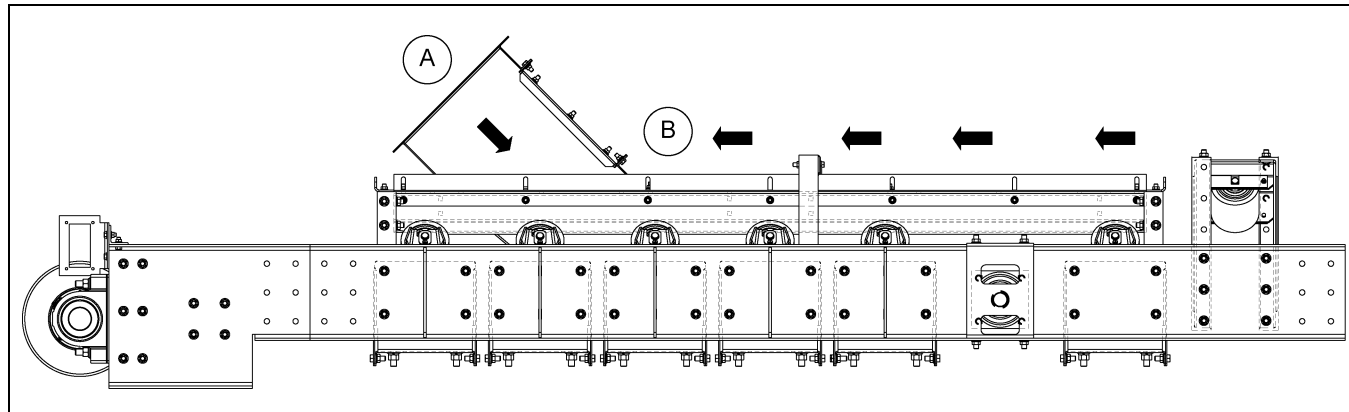

Figure 5B Incorrect
Fertilizer (A) should be loaded in the same direction of belt travel (B) and at the same speed. (See Figure 5B.)